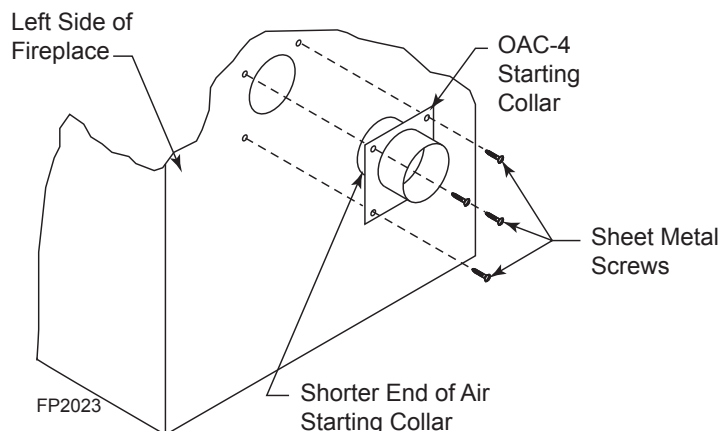

**Figure 12 -**
2. Place starting collar (4") into hole on left side of fireplace. Fireplace shortest side of air starting collar through fireplace outer wrap. Fasten starting collar in place with four (4) sheet metal screws provided. *Figure 12*